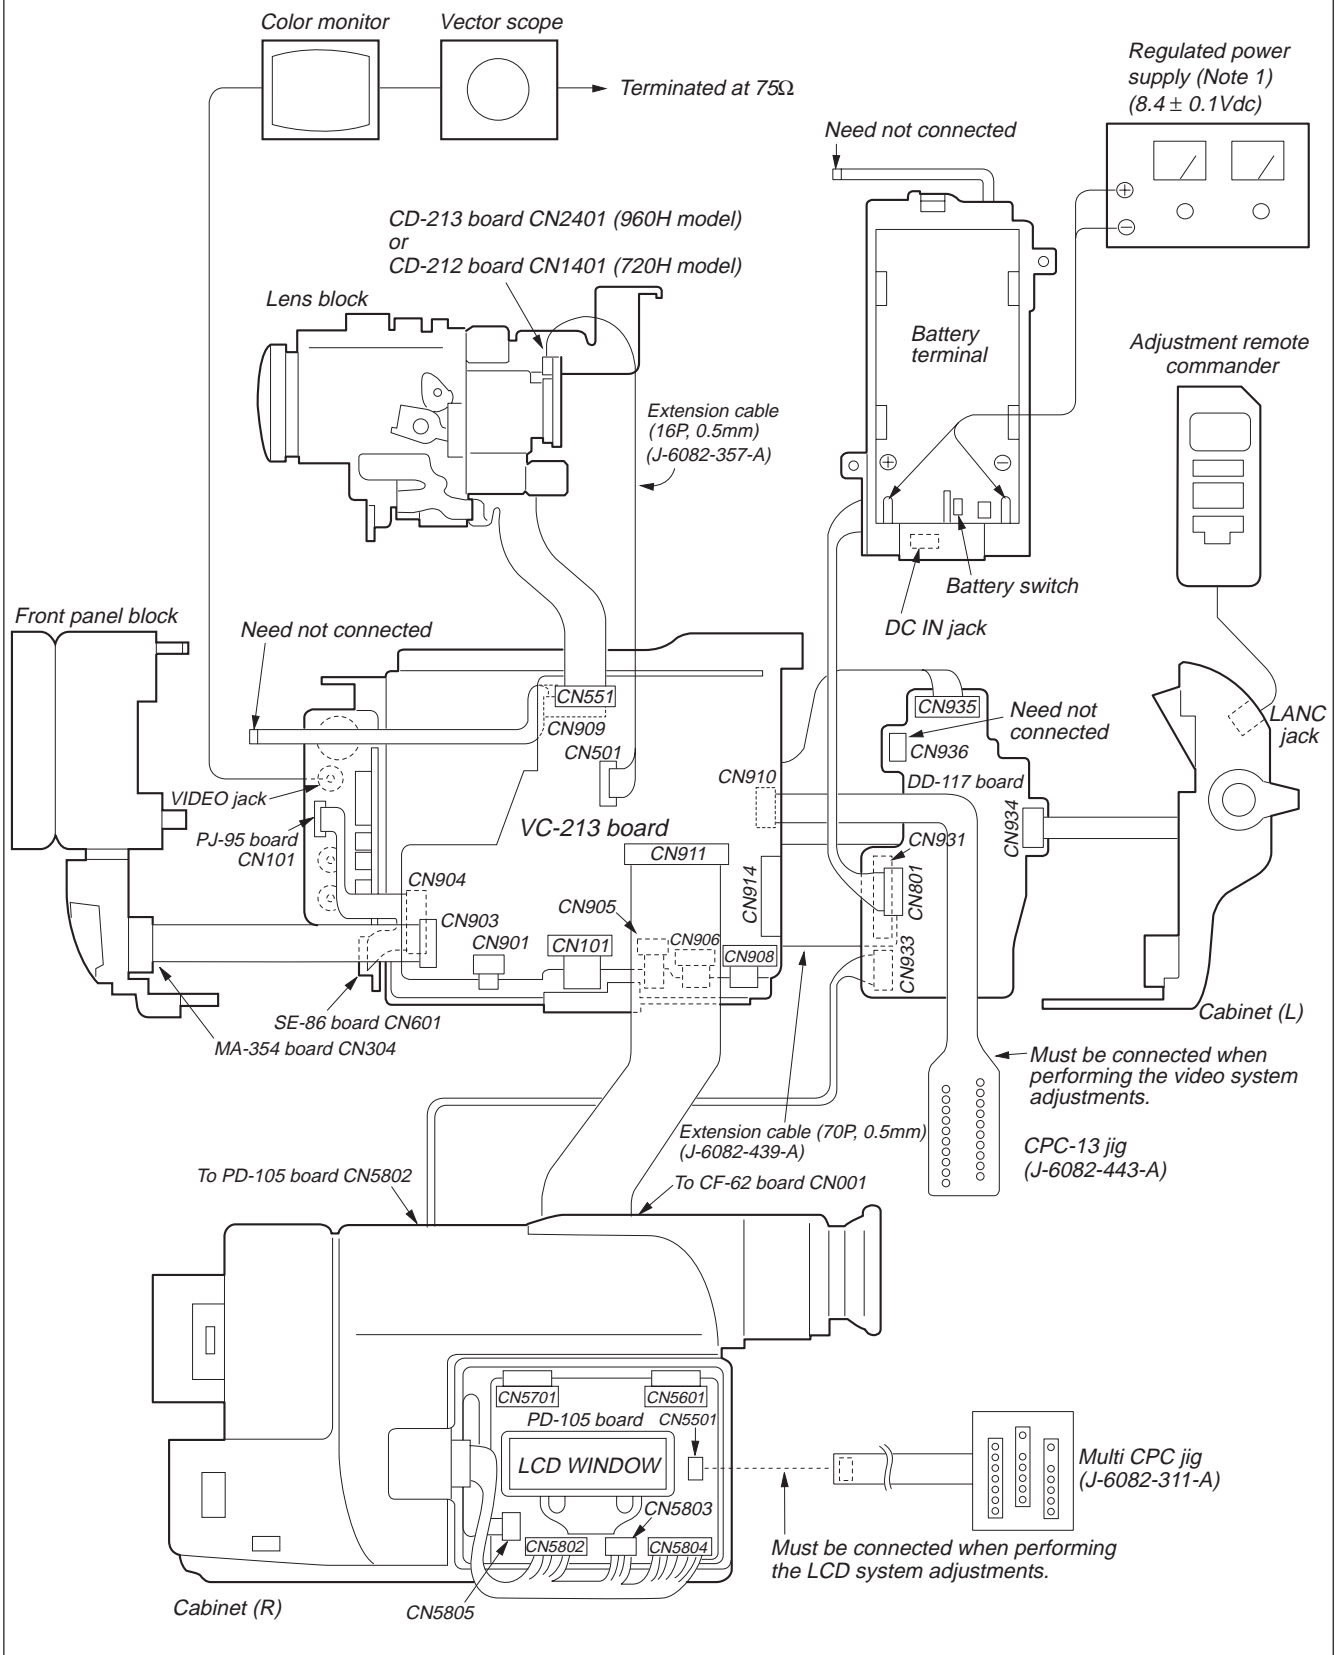

Fig. 5-1-3.
- 1) Connect the equipment for adjustments according to Fig. 5-1-3, 4, 5.